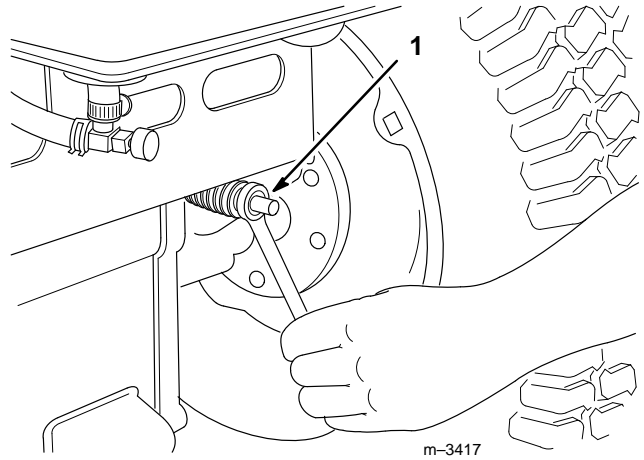

Figure 38
The brake adjustment is at the rear of the tractor (Fig. 38). If the parking brake does not hold securely, an adjustment is required.
4. Turn the brake adjustment nut (Fig. 38) until there is 2" (51 mm) of free travel.